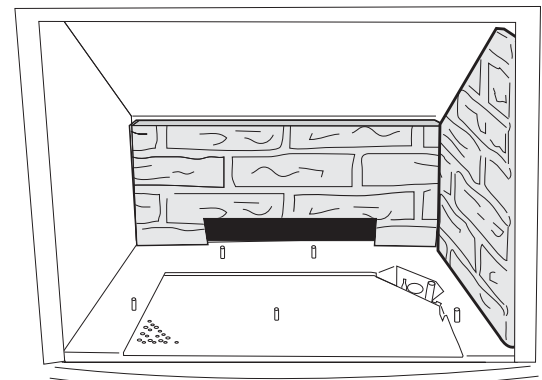

Figure 50. Install Side Panel
- 5. Install a Side Panel.** Tilt the panel, bottom edge first, into position against the side wall. The panel will stand on its own against the wall, fitting snugly between the rear panel and the front wall of the firebox. Fig. 50.